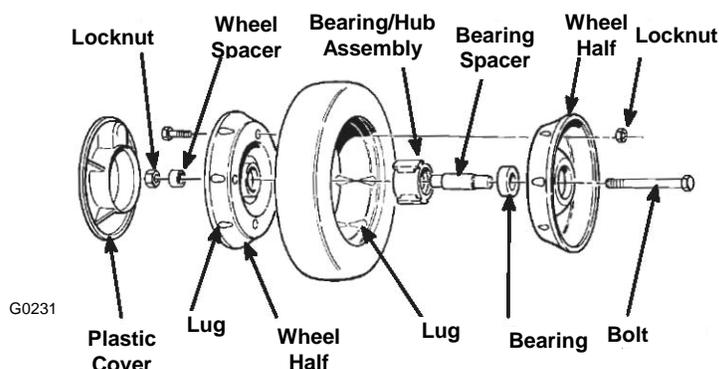

Figure 33
3. Loosen the nut on the cable bracket (Fig. 33).
3. Loosen the jam nut on the blade brake cable clamp (Fig. 33).
3. Remove the bolt, the wheel spacer, and the locknut mounting the wheel to the pivot arm (Fig. 33).
4. Separate the wheel halves from the tire by removing four bolts and four locknuts (Fig. 33).
NOTE: If you remove the bearings from the bearing/hub assembly, remove them by pressing on the bearing spacer (Fig. 33).
1. Position the tire onto one wheel half, aligning the lugs on each (Fig. 33).
2. Place the bearing/hub assembly into the center hole of the wheel half. Ensure that the legs of the hub are positioned over the flange of the hole (Fig.33).
3. Place the other wheel half onto the bearing/hub assembly, aligning the wheel and the tire slugs and the mounting holes (Fig. 33).
4. Using two fully threaded screws or bolts (1/3-20 x 1.5 in) and non-locking nuts, loosely secure the wheel halves together. Mount the screws or bolts in the opposing holes (Fig. 33).
5. Check the alignment of all parts and tighten the screws, alternating from side to side for a uniform fit until the wheel halves are drawn together (Fig. 33).
7. Install the wheel to the pivot arm with the cap screws, a spacer, and a locknut. Ensure that the spacer is positioned between the wheel hub and the pivot arm (Fig. 33).